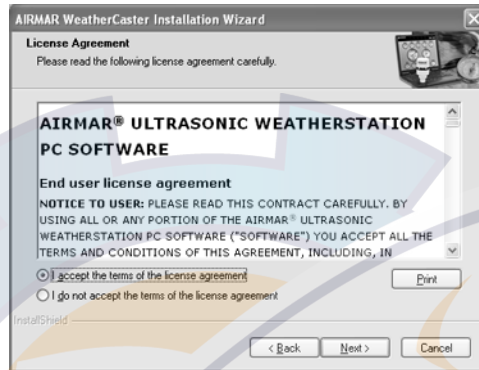

Figure 20. License Agreement window
5. The License Agreement window will appear (see Figure 20). Click the “I accept the terms of the license agreement” button to accept the agreement, then click Next to continue.